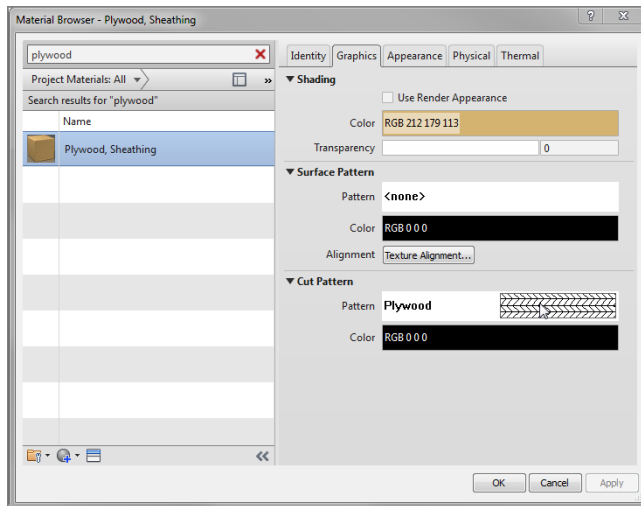

FIGURE 12.44: Show us your plywood!
6. On the Graphics tab, click into the Pattern field in the Cut Pattern category, and change the pattern to Plywood, as shown in Figure 12.44.
7. Double-click the plywood pattern (see Figure 12.44 for the location of the cursor).